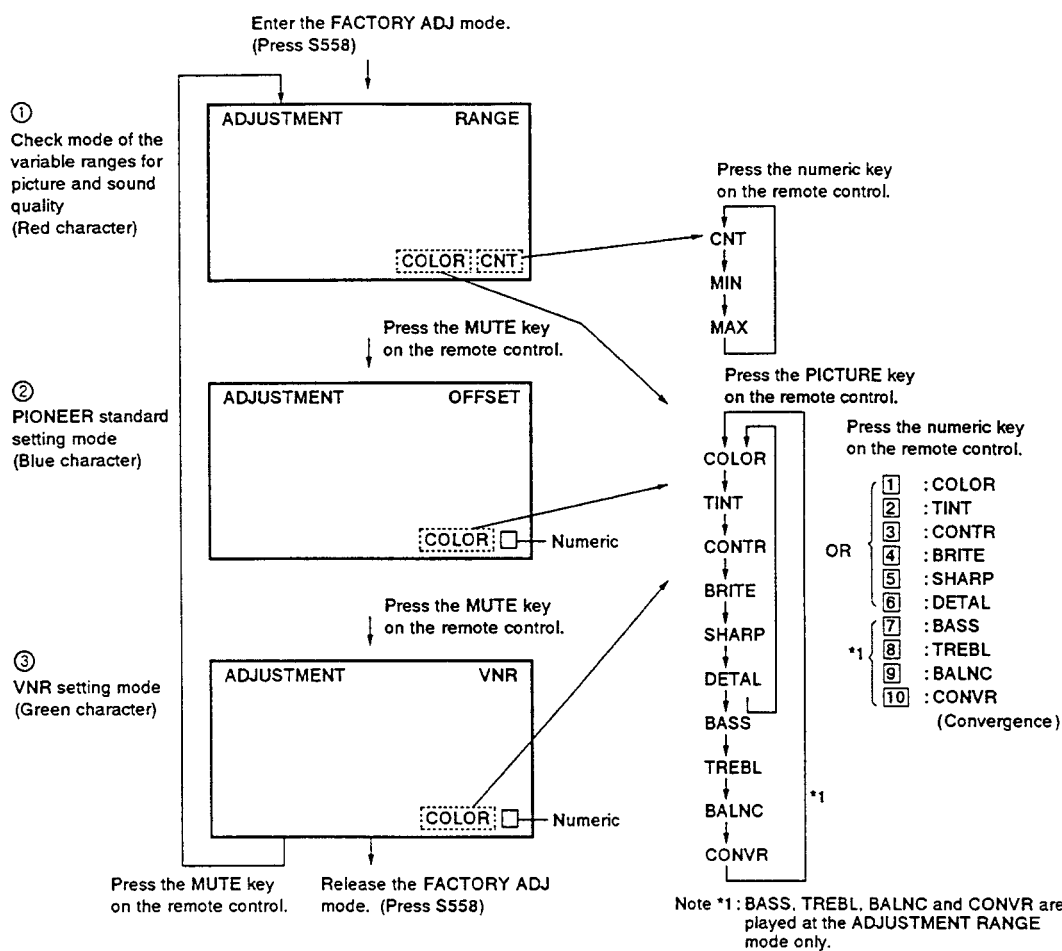

Fig. 9-1-1 Screen display of the FACTORY ADJ mode
① ADJUSTMENT RANGE Mode
FACTORY ADJ mode is activated by pressing S558 at the front panel with a small screwdriver or equivalent. Then the display for ADJUSTMENT RANGE mode will appear on the screen, as shown in Fig. 9-1-1 ①.
ADJUSTMENT RANGE mode is changed to ADJUSTMENT OFFSET mode by pressing the MUTE key on the remote control, as shown in Fig. 9-1-1 ②.
③ ADJUSTMENT VNR Mode (VNR SETTING mode)
ADJUSTMENT OFFSET mode is changed to ADJUSTMENT VNR mode by pressing the MUTE key on the remote control, as shown in Fig. 9-1-1 ③.